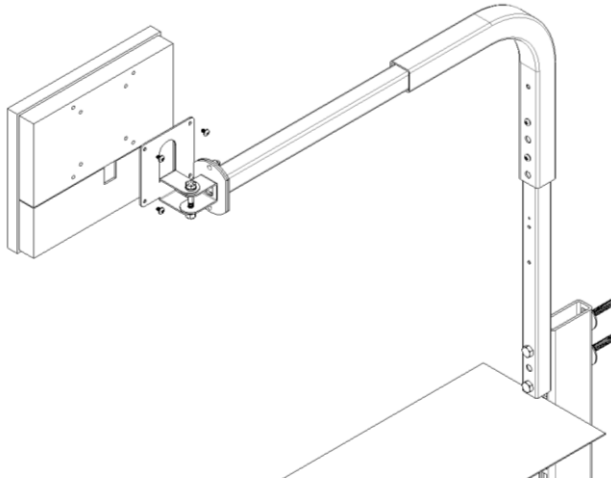

Fig. 7. ePVM to the VESA plate
- Attach the ePVM to the VESA plate using (3) M4 screws. See Fig. 7.